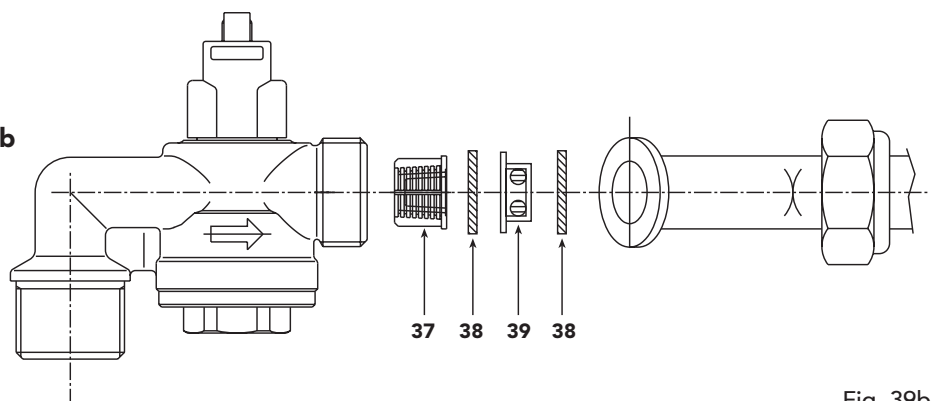

Fig. 39b
**Take care on correct position of components as reported in fig. 39b**